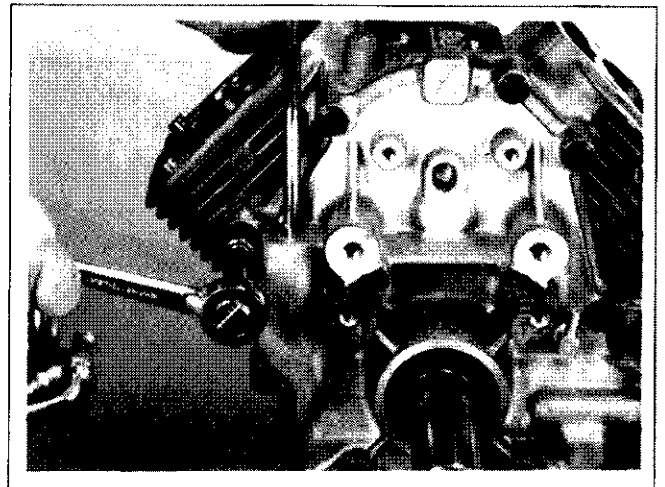

Figure 9-58. Removing the Ten Closure Plate Fasteners.
1. Remove the ten hex. flange screws securing the closure plate to the crankcase. See Figure 9-58.